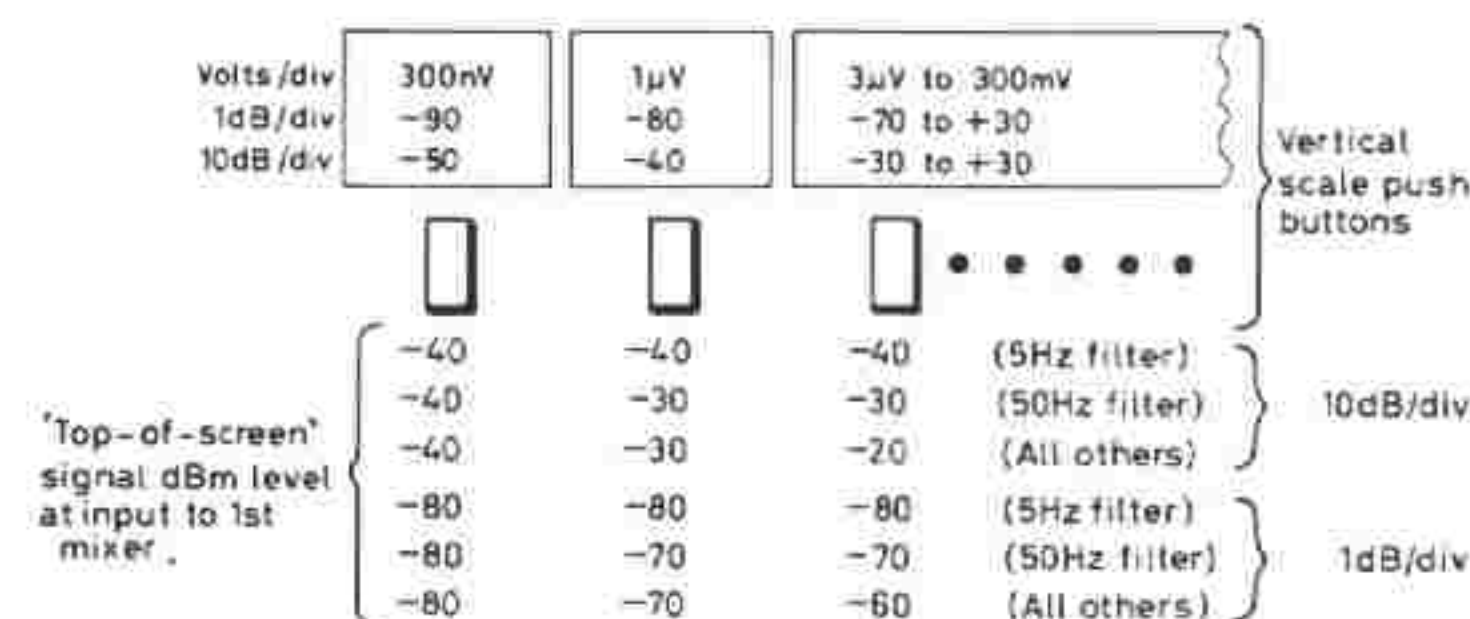

Fig. 2.2 Signal levels at input of first mixer
(17) HORIZONTAL SCALE : This nine position push button switch selects sweep widths from 20 Hz/division to 10 MHz/division when used in conjunction with the RANGE (20) switch. Normally it is unnecessary to know the filter bandwidth in use at any given time, as this is automatically selected. Should the bandwidth need to be known, however, it can be read from the table above the push buttons for kHz/division and below for MHz/division; the numbers 1, 2 and 3 referring to the NARROW/NORMAL/WIDE setting of the FILTER BANDWIDTH push buttons (19).
(18) SWEEP SPEED : On all positions, the sweep speed automatically selected is the fastest sweep possible for negligible loss of amplitude of the spectral lines. However, for tuning in, counter setting or tracking generator use, it is sometimes desired to sweep more quickly even though it causes loss of amplitude and line broadening. To this end, the x5 button is provided which increases sweep speed by approximately the value stated up to 100 ms which is the fastest input data rate permitted by the storage system. The 100 s button provides a slow sweep for use with the X-Y recorder facility. The button is spring loaded to avoid it being left in the operated, and thus uncalibrated, state.
(19) FILTER BANDWIDTH : In the NORMAL '2' position a filter of approximately 1% of the sweep width (-3 dB point) is selected on all ranges. In the NARROW '1' position a filter 10 times narrower than this is selected (where possible) and in the WIDE '3' position a filter 10 times as wide is selected (where possible). The filter bandwidth selected at any time can be read from the table either side of the HORIZONTAL SCALE push buttons - see (17) above.
(20) RANGE : The kHz/DIV and MHz/DIV buttons are multipliers for the HORIZONTAL SCALE buttons. As the first local oscillator is phase locked in the kHz/DIV position and free running in the MHz/DIV position there can be several hundred kHz shift in centre frequency between the two positions. When changing from kHz/DIV to MHz/DIV this is no problem. When changing from MHz/DIV to kHz/DIV it is suggested that this should only be done using the 0.02 MHz/DIV position (200 kHz sweep) before switching to 10 kHz/DIV position (100 kHz sweep) and using the counter readout to assist if necessary.
(21) VERTICAL SCALE : Thirteen push buttons give input sensitivities in 10 dB steps from +30 dBm to -150 dBm (300 mV r.m.s./division to 300 nV r.m.s./division on LINEAR). The gain and attenuation throughout the receiver is automatically adjusted, depending on the filter in use, such that the i.f. amplifier noise is at the bottom of the 100 dB display consistent with the first signal mixer not operating at an input level greater than -20 dBm. See Fig. 2.2 for signal levels at first signal mixer.